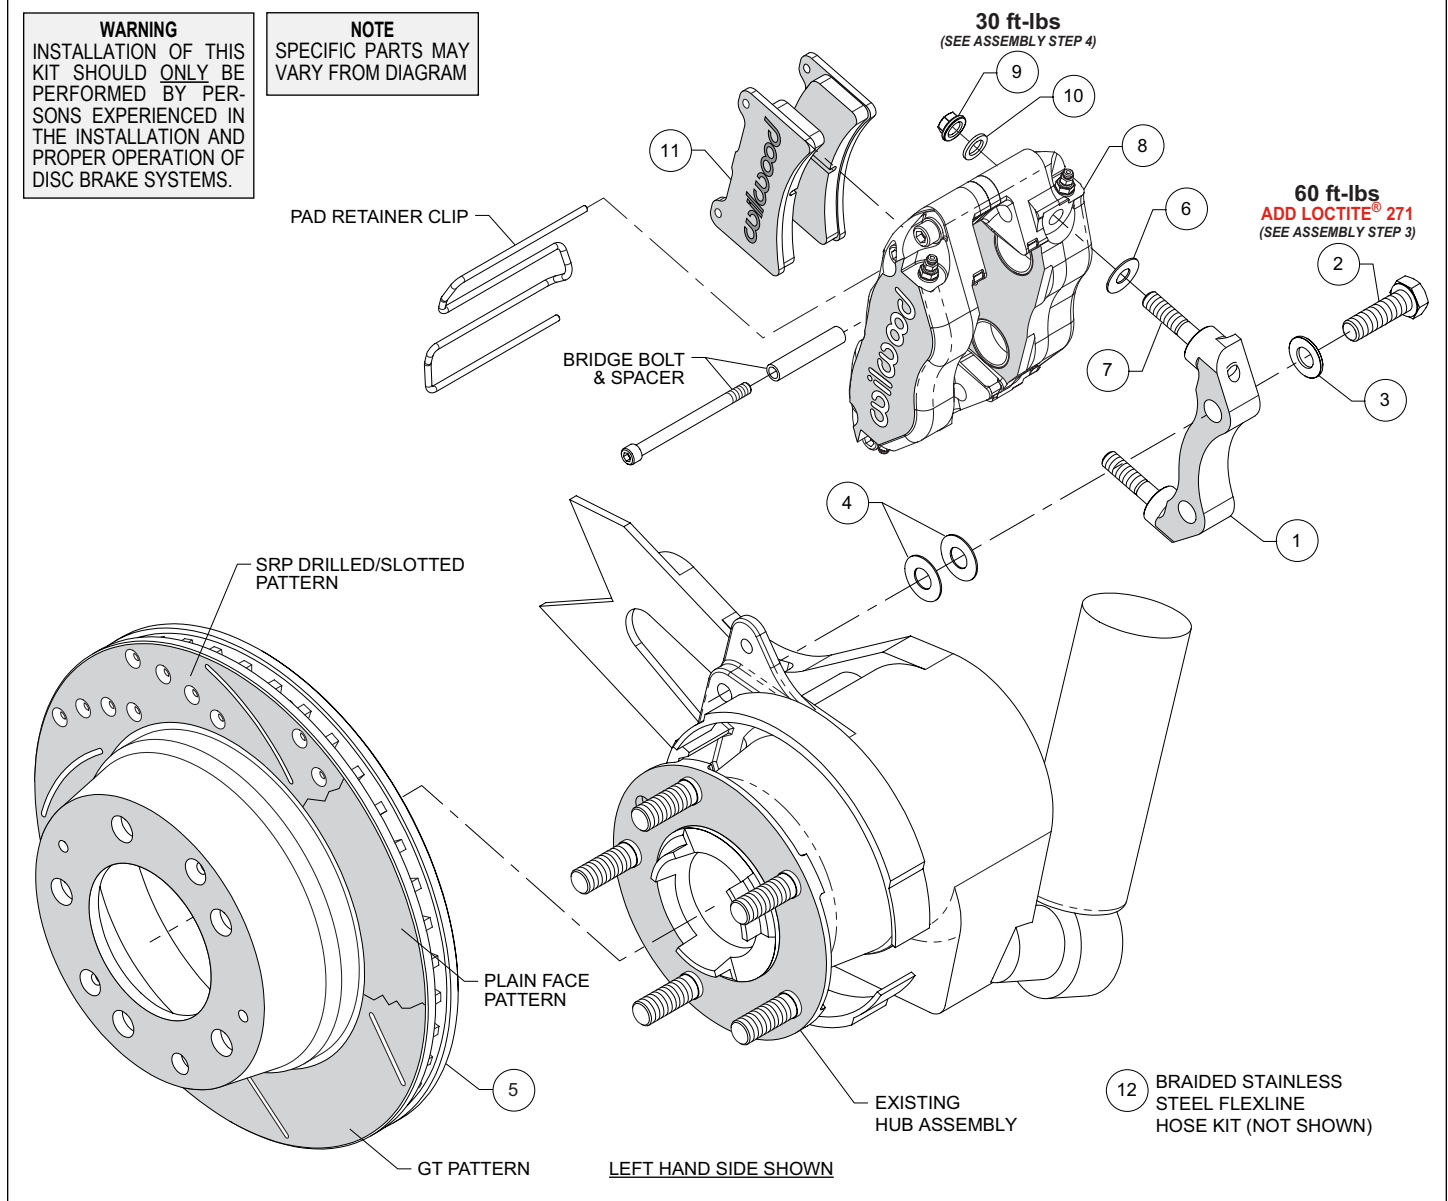

Figure 1. Typical Installation Configuration
NOTE: Numbers in parenthesis refer to the parts list and Figure 1 on the preceding pages.
STEP 1 The caliper mount bracket (1) should initially be installed with clean, dry threads on the mounting bolts. Orient the bracket, as shown in Figure 1 and Photo 1, and install using bolts (2) and washers (3). Initially place two .033" thick shims (4) on each bolt between the bracket (1) and upright, Figure 1 and Photo 2 (see arrows). Temporarily tighten the mounting bolts. **NOTE:** The bracket must fit squarely against the mount bosses on the upright. Inspect for interference from casting irregularities, machining ridges, burrs, etc.
STEP 2 For kits 140-16682 and 140-17003, install the Wilwood rotor (5) onto the hub assembly, Figure 1 and Photo 4.
STEP 3 Initially place one .035" thick shim (6) on each stud (7) between the caliper (8) and the bracket (1), as shown in Figure 1 and Photo 3. Mount the caliper (8) onto the bracket (1) using lock nuts (9) and washers (10), Figure 1. Temporarily tighten the lock nuts. View the rotor through the top opening of the caliper. The rotor should be centered in the caliper, Photo 5. If not, adjust by adding or subtracting shims (4) between the bracket (1) and the upright. Always use the same amount of shims on each of the two mounting bolts. Once the caliper alignment is correct, remove the bracket mounting bolts (2) one at a time, apply red Loctite® 271 to the threads, and torque to value shown in Figure 1.
STEP 4 Remove the caliper pad retainer clip, bridge bolt and spacer from the caliper, Figure 1. Insert the brake pads (11) into the caliper, with the friction material facing the rotor, Photo 6. Check that the top of the brake pad is flush with the outside diameter of the rotor, Photo 7. If not, adjust by adding or subtracting shims (6) to the stud between the caliper (8) and the caliper mount bracket (1). After the caliper pad height is set, torque the caliper lock nuts (9) to value shown in Figure 1. Secure the brake pads in place with the pad retainer clip and reinstall the bridge bolt and spacer.
STEP 6 Attach supplied brake line to caliper. **NOTE:** OEM rubber brake hoses generally cannot be adapted to Wilwood calipers. Install Wilwood's stainless steel braided flexline hose kit (12), P/N 220-16710 included with this kit, as shown in Photo 9. The caliper inlet fitting is a 1/8-27 NPT. Use the included steel adapter fitting at the caliper (use PTFE tape on the pipe threads of adapter fitting for proper sealing to caliper). **Ensure hoses are routed to prevent contact with moving suspension, brake or wheel components.**